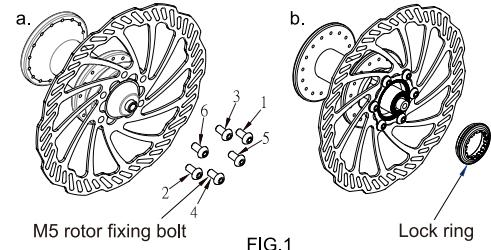

FIG.1
- Rotor Fixing Bolt:** Place the rotor on the mounting surface of the hub, and make sure the arrow on the rotor is pointing in the same direction of rotation in which the wheel moves forwards. Fasten M5 rotor fixing bolts with Torx T25 wrench in sequence with tightening torque at 6-8 Nm. (Fig.1)
- Center lock:** Place the rotor on the mounting surface of the hub and fasten lock ring by socket with tightening torque at 35-40Nm.(310-354 in. lbs) (Fig.1)